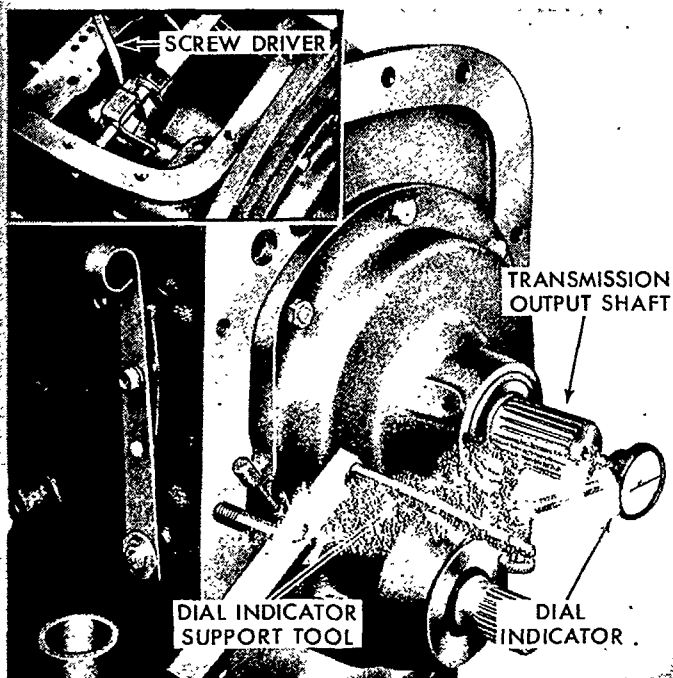

Figure 43
2. Mount the dial indicator support tool on the rear of the transmission case and install the dial indicator on the support so that the contact rests on the end of the transmission output shaft, Figure 43.
3. Push the output shaft toward the front of the transmission and set the dial indicator to zero, as shown in Figure 43, while maintaining a slight pressure on the shaft.